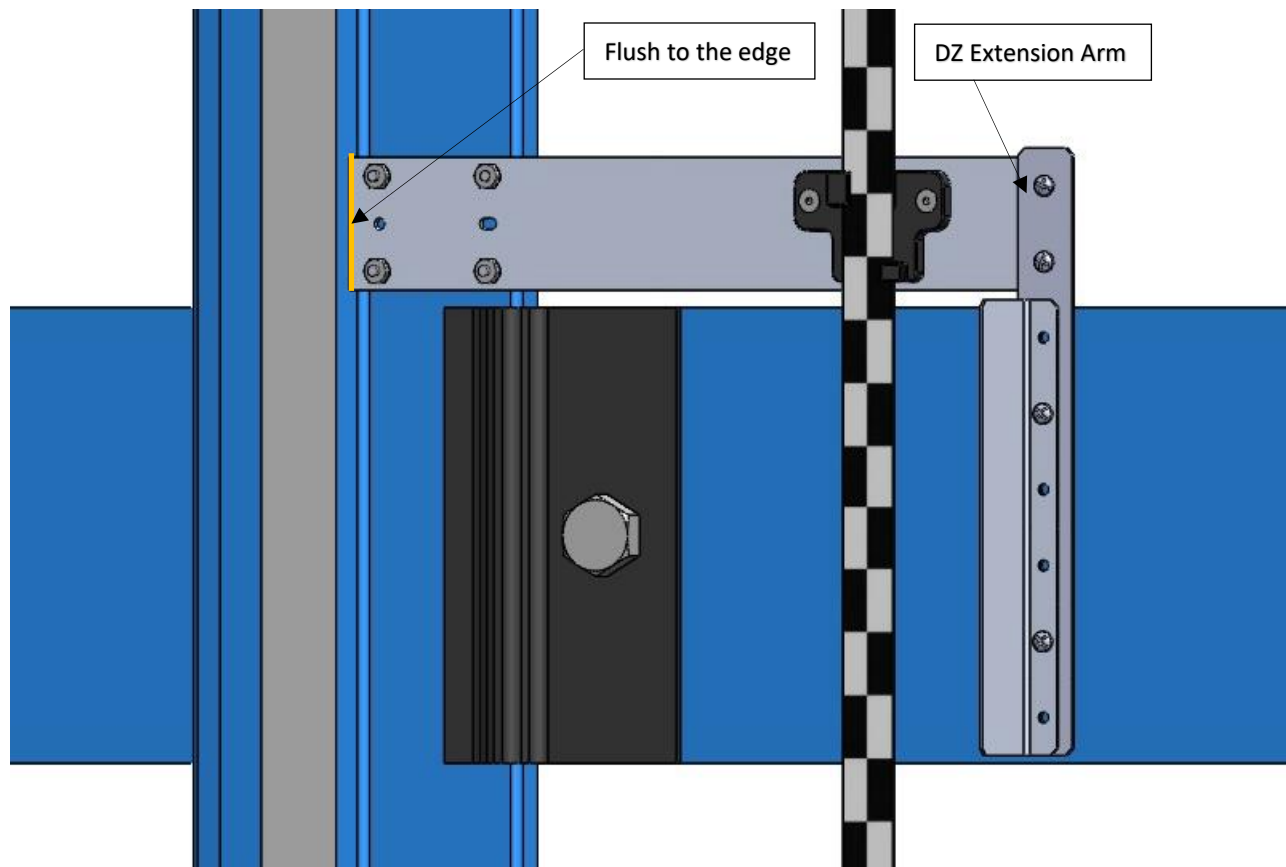

Figure 16: DZ Extension Arm
- Place the Tape Clip assembly onto the Guide Rail so that the DZ blade is centered vertically with the GLS reader Optical Axis as shown in figure 16.